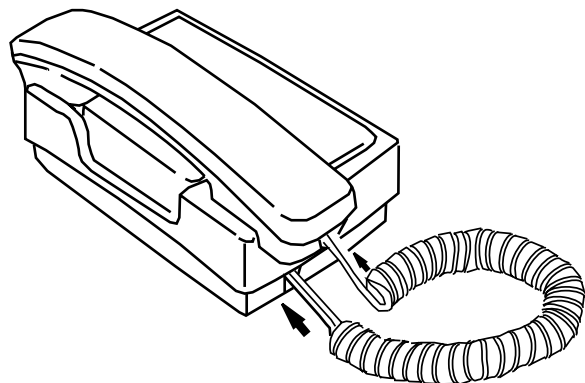

Fig. C.3.2
(3) After having taken out the telephone set, telephone handset and curled cord from the carton box, connect them as show in Fig. C.3.2.